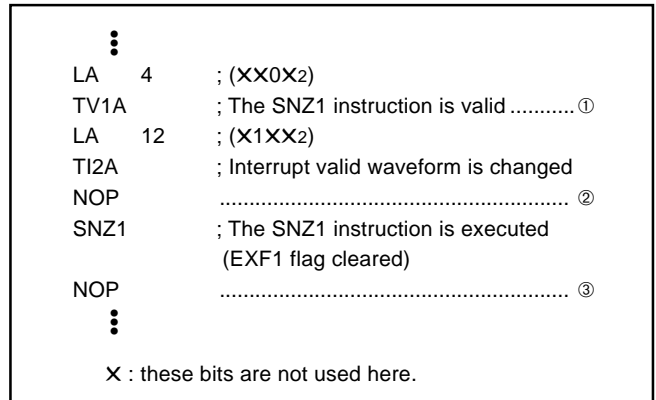

Fig. 71 External 1 interrupt program example-3
- Depending on the input state of the P31/INT1 pin, the external 1 interrupt request flag (EXF1) may be set when the bit 2 of register I2 is changed. In order to avoid the occurrence of an unexpected interrupt, clear the bit 1 of register V1 to "0" (refer to Figure 71①) and then, change the bit 2 of register I2. In addition, execute the SNZ1 instruction to clear the EXF1 flag to "0" after executing at least one instruction (refer to Figure 71②). Also, set the NOP instruction for the case when a skip is performed with the SNZ1 instruction (refer to Figure 71③).